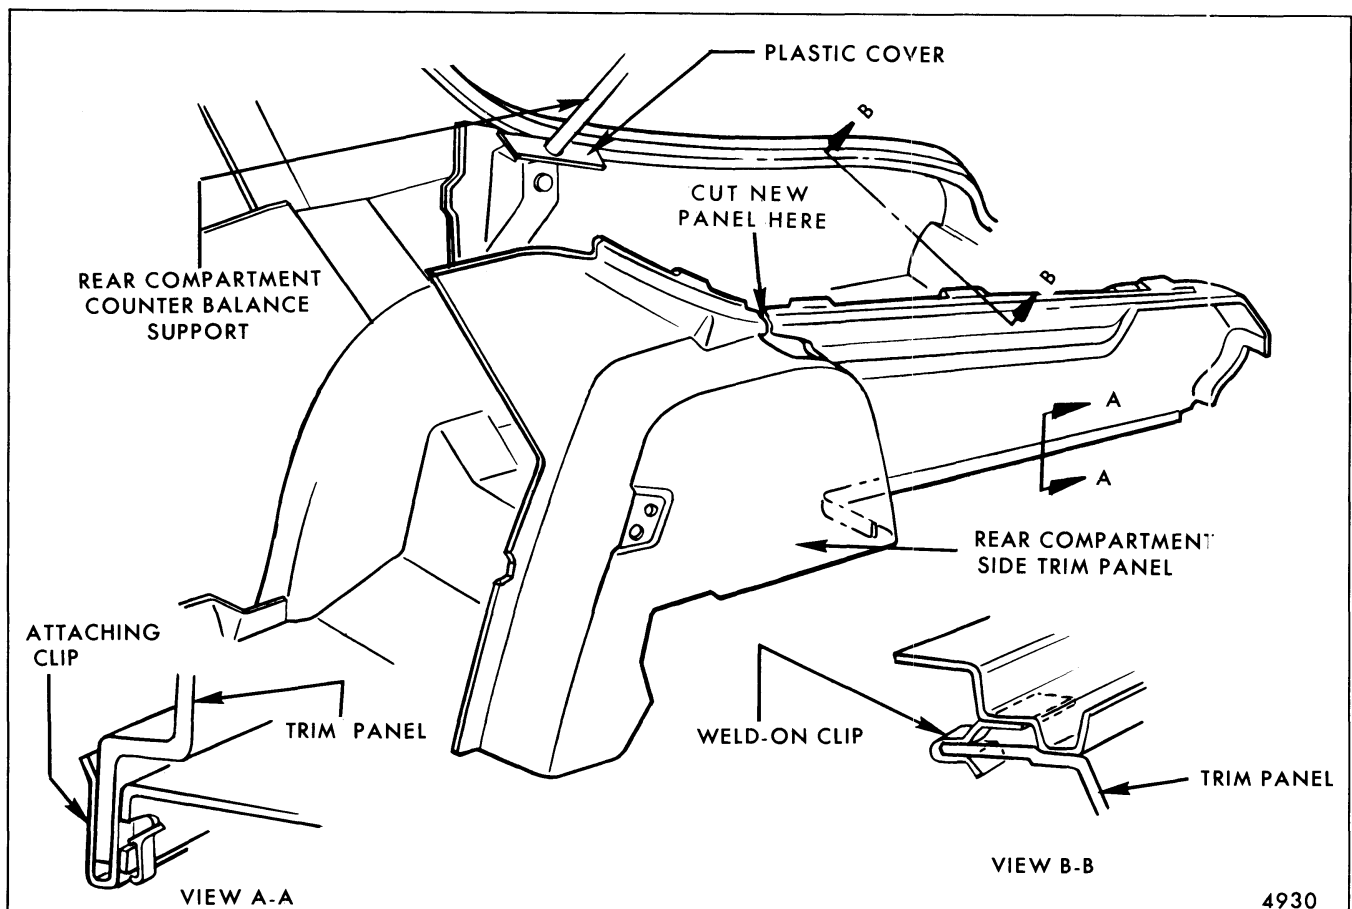

Fig. 6-15-Rear Quarter Wheelhouse Trim Cover Panel - "X-17" Styles
5. Disengage top of trim panel from weld-on clips at underside of gutter (Fig. 6-15 View B-B) then, lift upward to release panel from clips at bottom (Fig. 6-15, View A-A).
- NOTE:** If replacing trim panel and new panel is not separated at counterbalance support hole, cut new panel at location shown in Figure 6-15.